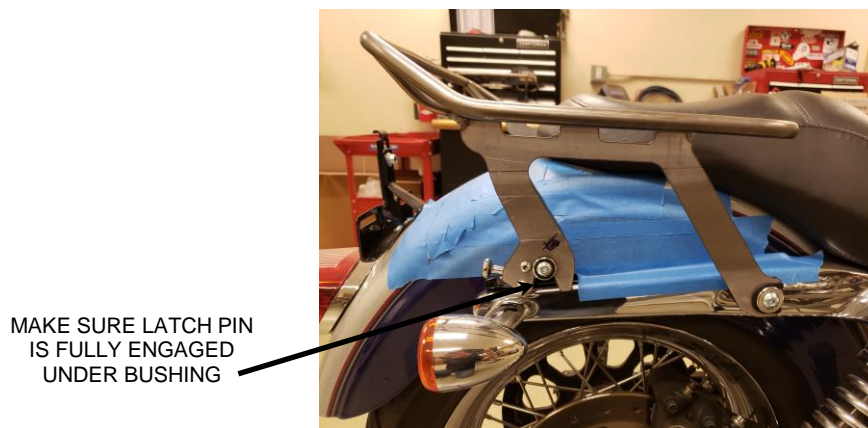

FIGURE 5
14. Pull backward on both detachable latch knobs and then push downward on the rack to allow the rack to sit completely on the rear mounting bushings. Then release the detachable latch knob to fully engage the latch pin underneath the mounting kit bushing. See **FIGURE 5**.
15. Always check to make sure both detachable latch pins are fully engaged on the bottom of the mounting kit bushing. See **FIGURE 5**.